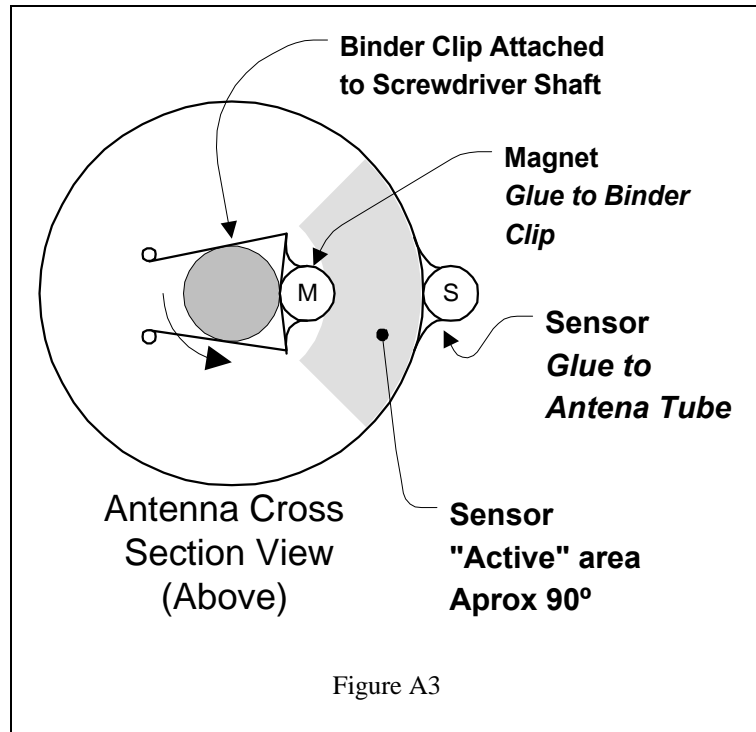

Figure A3
Figure A3 depicts the inside of the antenna showing the magnet (M) and sensor (S). The active region of the sensor should be about 90 degrees. That is, when the magnet is within the shaded area, the sensor should be active.